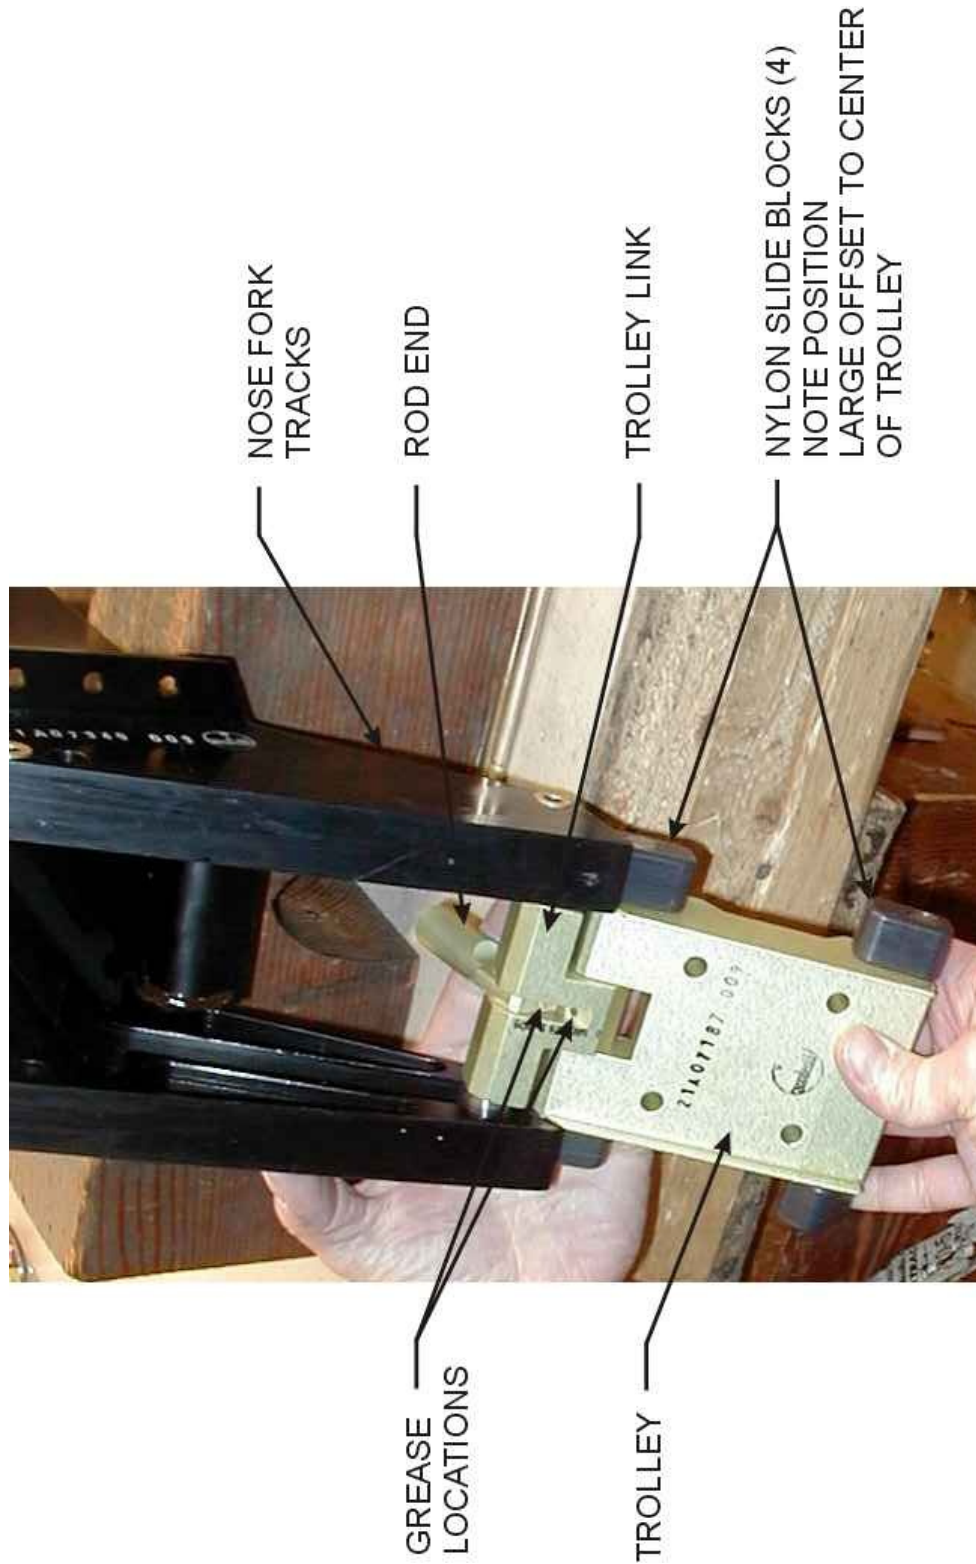

FIGURE 7-4 POSITION OF TROLLEY TO NOSE BOX
1. If installing rod end and trolley link to trolley, note position of grease hole, it has to be positioned up (refer to Figure 7-4).
2. Before inserting trolley in nose box, take care to position nylon slide blocks. Position as noted on Figure 7-1 and Figure 7-4.